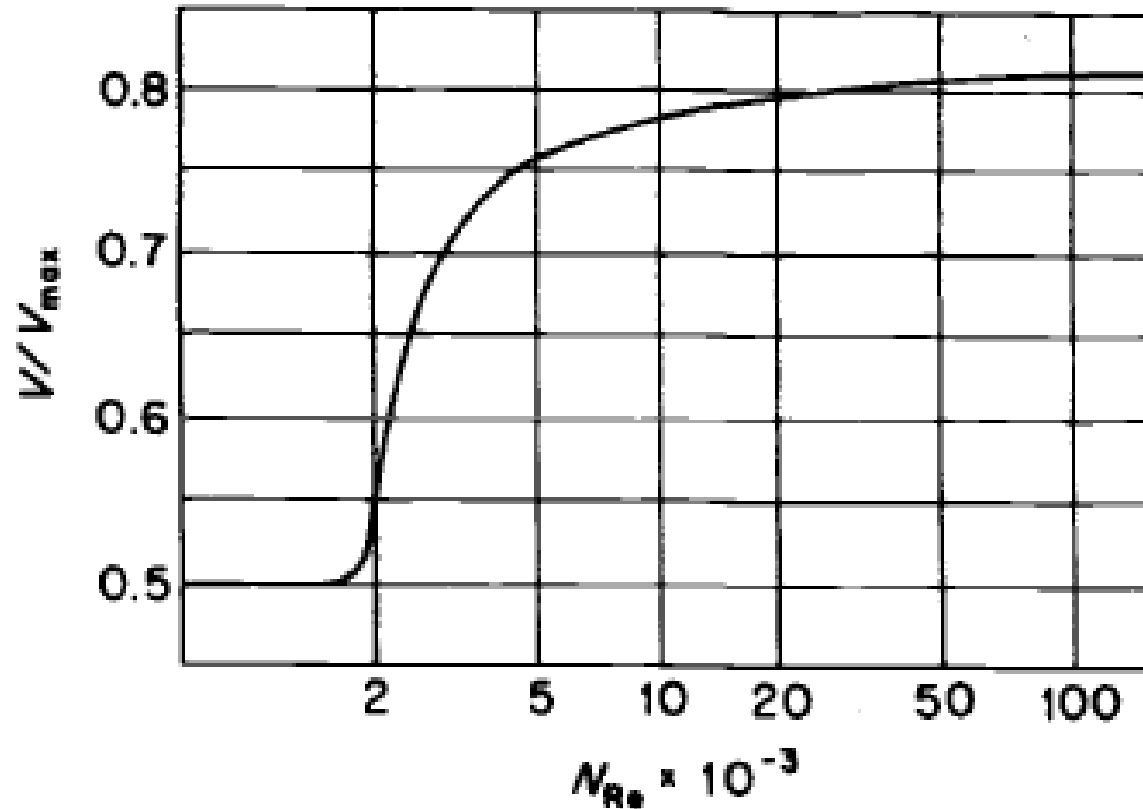

FIGURE 5.10 Relation of velocity ratio V/V_{max} and Reynolds number.
- The variation of V with V_{max} is determinable as a function of the Reynolds number, however, as shown in Fig. 5.10. This graph enables one to estimate the average velocity when only one measurement along the centerline has been made. Discretion should be exercised in its use in mine ventilation, however, since